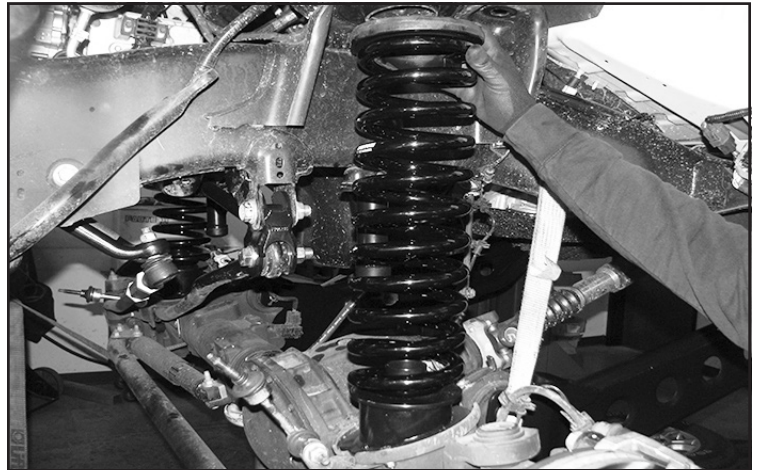

FIGURE 38 - STEP 32
32. Install the new coil springs (FT44316BK) on both driver and passenger side using the factory upper coil spring isolator. **SEE FIGURE 38**